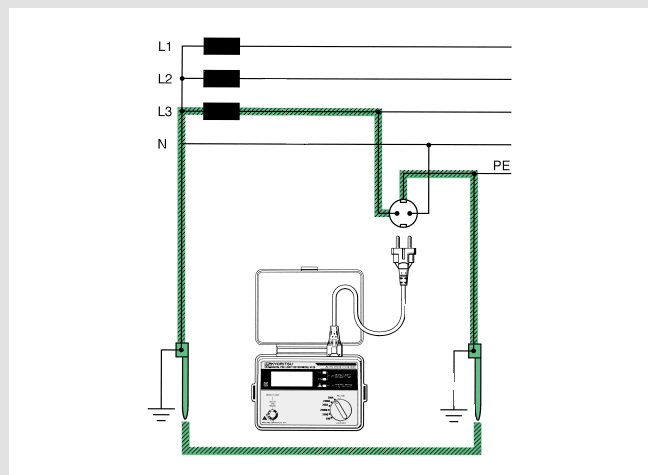

Fig.1 Earth fault loop impedance testing at socket outlet.
As shown in Fig.1, total earth fault loop impedance can be measured by plugging a loop tester into socket. The value of earth fault loop impedance measured represents the sum of transformer coil winding resistance, phase conductor (L3) resistance and protective conductor (PE) resistance as well as source earth resistance and installation earth resistance. With the loop tester set to any one of the PSC (prospective short circuit current) range, it is also possible to measure earth fault current.